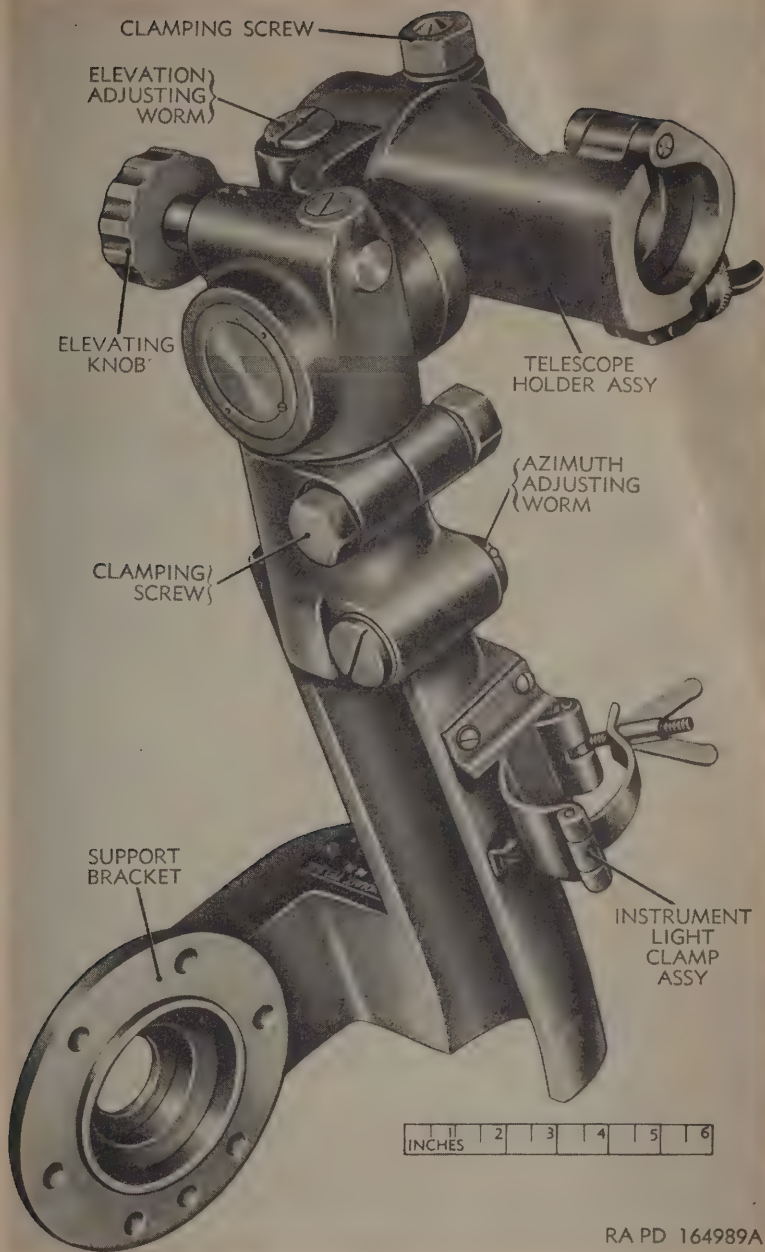

Figure 7. Telescope mount M31—assembly view.
- (3) The telescope mounts M31 (fig. 7), M46 (fig. 8), M54 (fig. 9), and M71 (fig. 10) are similar to the M28, except for the length and position of the spindle.
*f. Knob Movement (Telescope Mounts M23, M28, and M31).* Turn the knob on the M23 (fig. 1), M28, and M31 (fig. 7) slowly; the movement will be smooth and even.